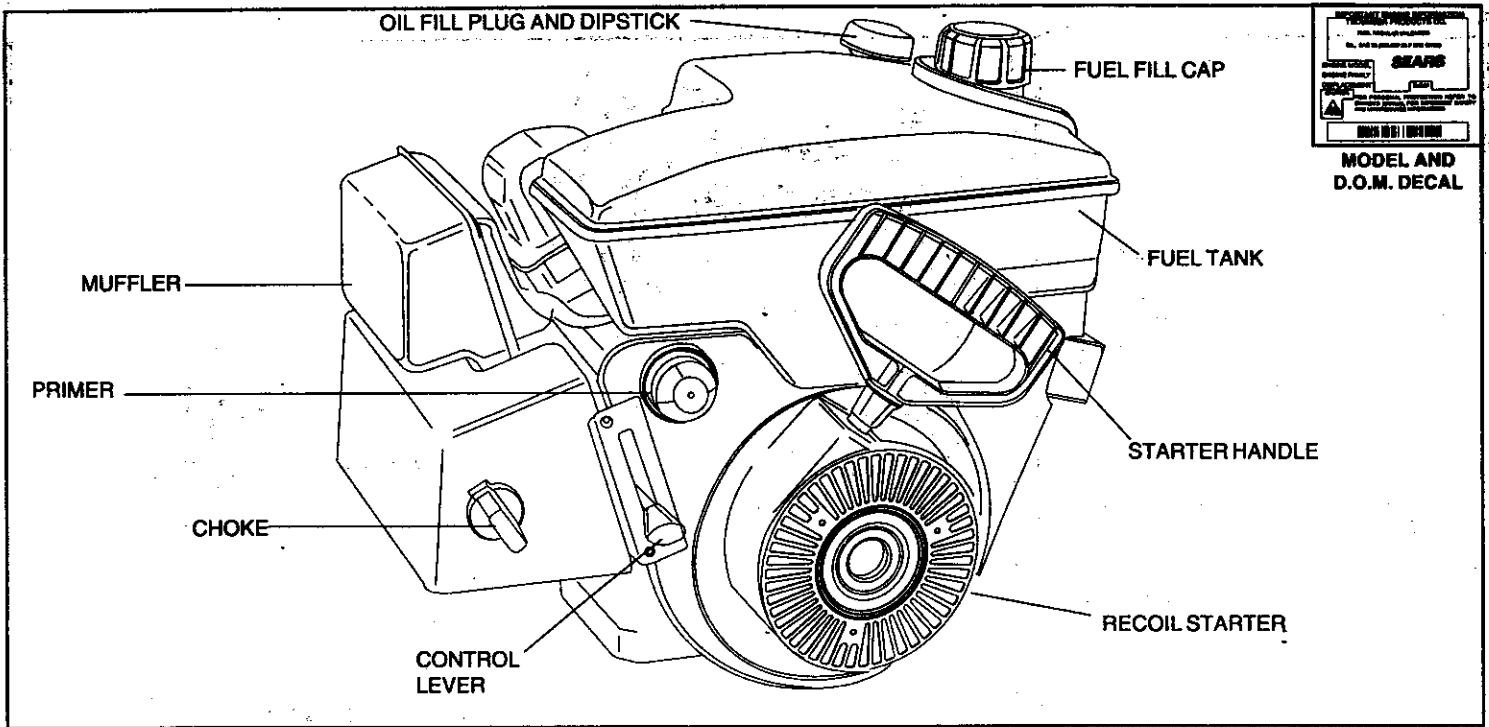

Figure 1
B. Clean area around OIL FILL PLUG (see Figure 1).
④ **CHECK THE FOLLOWING:**
B. Be sure SPARK PLUG WIRE is attached to SPARK PLUG (see Figure 1).
NOTE: If engine is used for anything except snow removal, the CARBURETOR COVER (see Figure 1) must be removed, and an approved air cleaner installed. See your nearby Sears Roebuck and co. (or Sears Canada, Inc.) Service Center.
① **RECOIL STARTER** (see Figure 1):